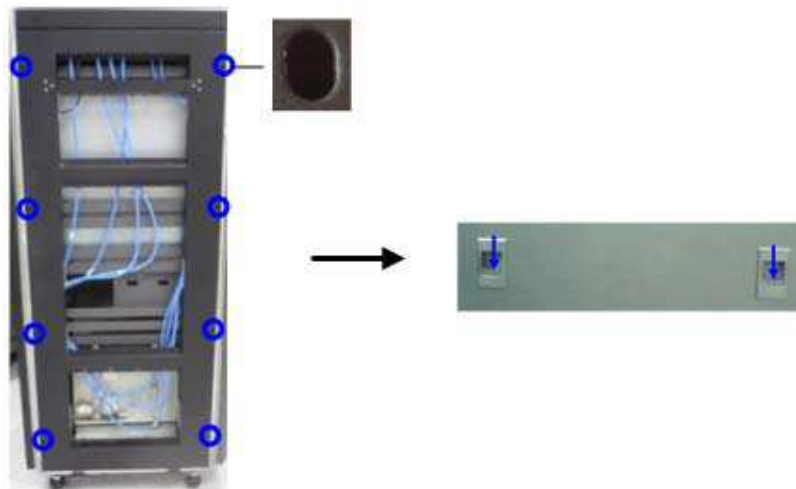

Figure 3-9 Disassembling the Side Door
Step 2 Disassemble the side doors as shown in Figure 3-9.